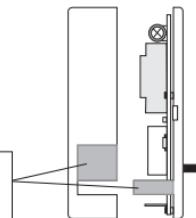

Fig. 5.i
From the base, remove the parts prepared for the passage of the connection wires shown in fig. 5.i.
- Attach the base to the wall (or built-in box), with 2 screws using the pairs of holes (**A-A, B-B, -C-C**) provided (fig. 5.i).